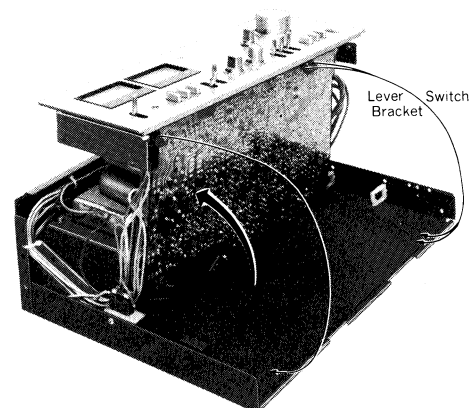

Fig. 6
10. Set the printed circuit board on the chassis as indicated in Fig. 6.
12. Mount the lever switch bracket inside the chassis prior to resetting the front panel. (Fig. 6)